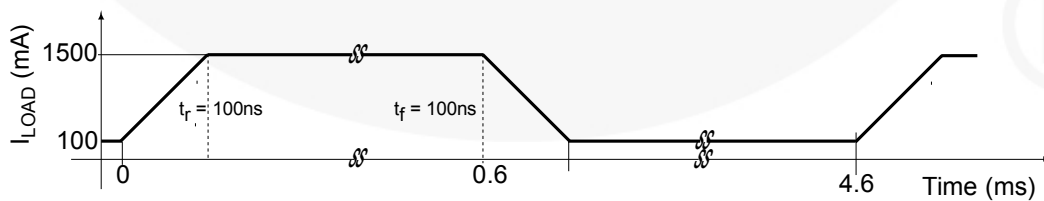

Figure 3. Load Transient Response Test Waveform
4. Please refer to the load transient response test waveform shown in Figure 3.